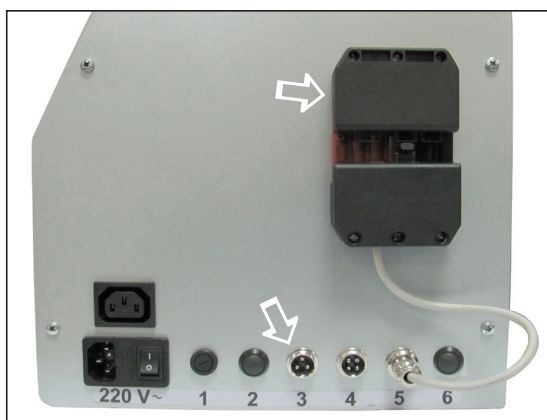

Fig. 11 Screw feeder motor cable
- A) Connect the cable connector coming from the screw feeder motor to the burner (3 fig. 11)